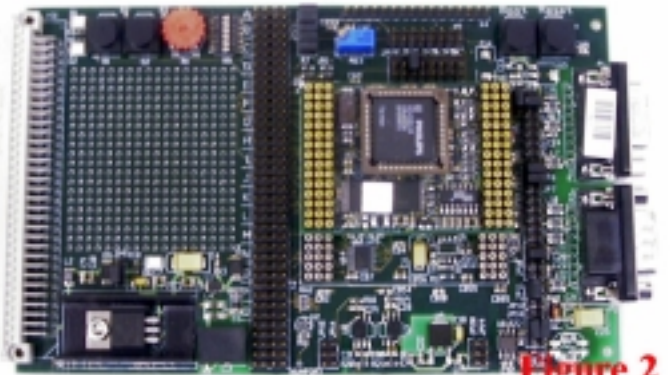

Figure 2
in Figure 2 showing the small single board computer with the P89C51RD2 microcontroller installed in a PLCC 44 pin socket. This system can be run stand-alone as pictured in Fig.2 or with the emulator connected, as shown in Fig. 4 to offer greater debugging and testing. This is accomplished by removing the 89C51Rx2 controller and plugging the emulator into the PLCC socket. The user then has complete control and access to the target system resources. You can contact PHYTEC at www.phytec.com. USA phone is (206) 780-9047 and Germany is +49 6131 9221-0.